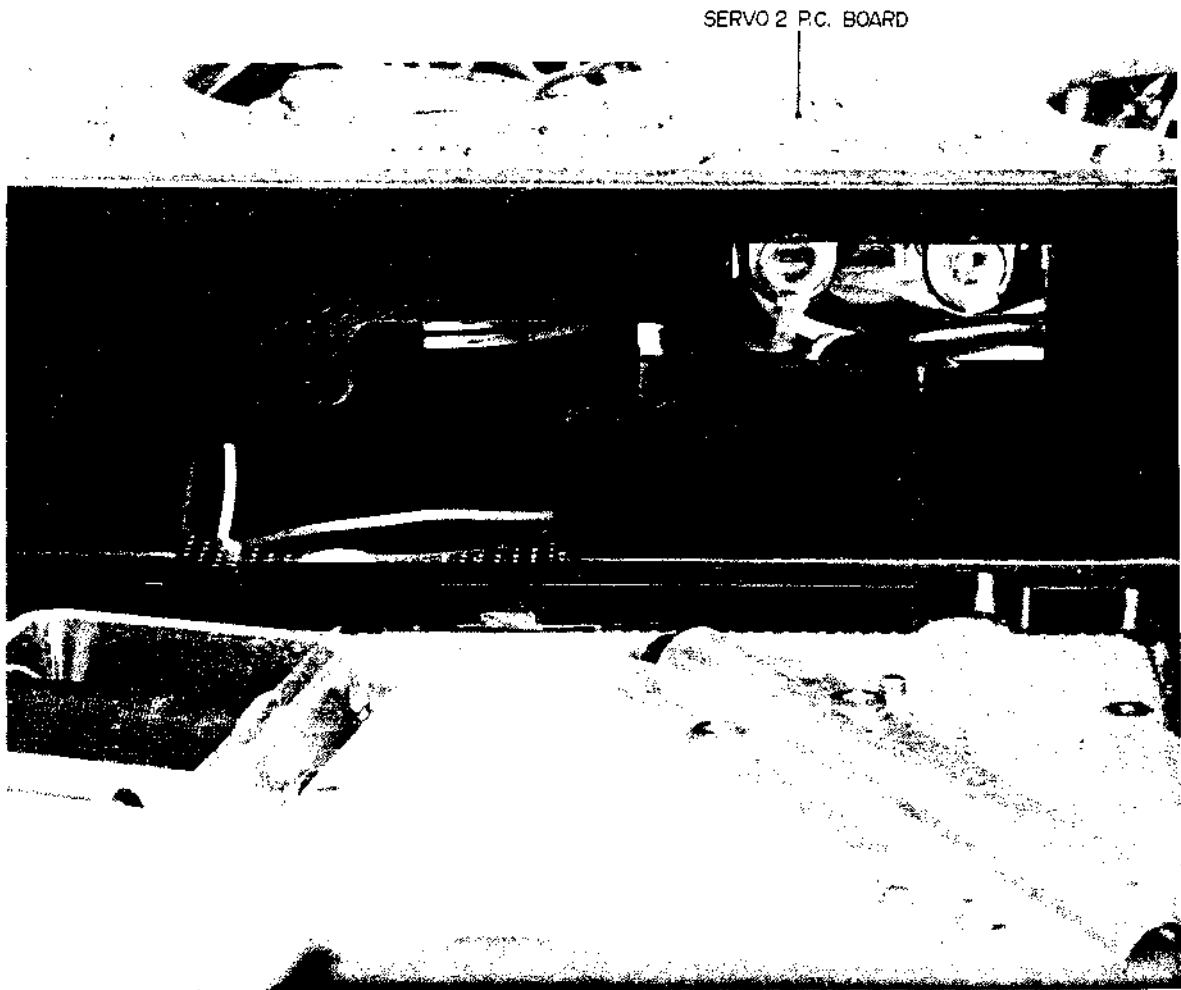

Fig. 2-13
NOTE: Set Camera/T.V. Switch to Camera prior to making servo circuit adjustments. Also make sure that the Function Switch installed on Servo 2 P.C. Board is correctly positioned during each adjustment (Refer to Fig. 2-13).
- i) Connect a frequency counter to 8P connector Audio Output terminal (pins J and H) and playback a 1 kHz test tape. Set Function Switch to position A and adjust Servo 2 P.C. Board VR5 (Fig. 2-13) to obtain a frequency counter indication of $1 \text{ kHz} \pm 5 \text{ Hz}$.